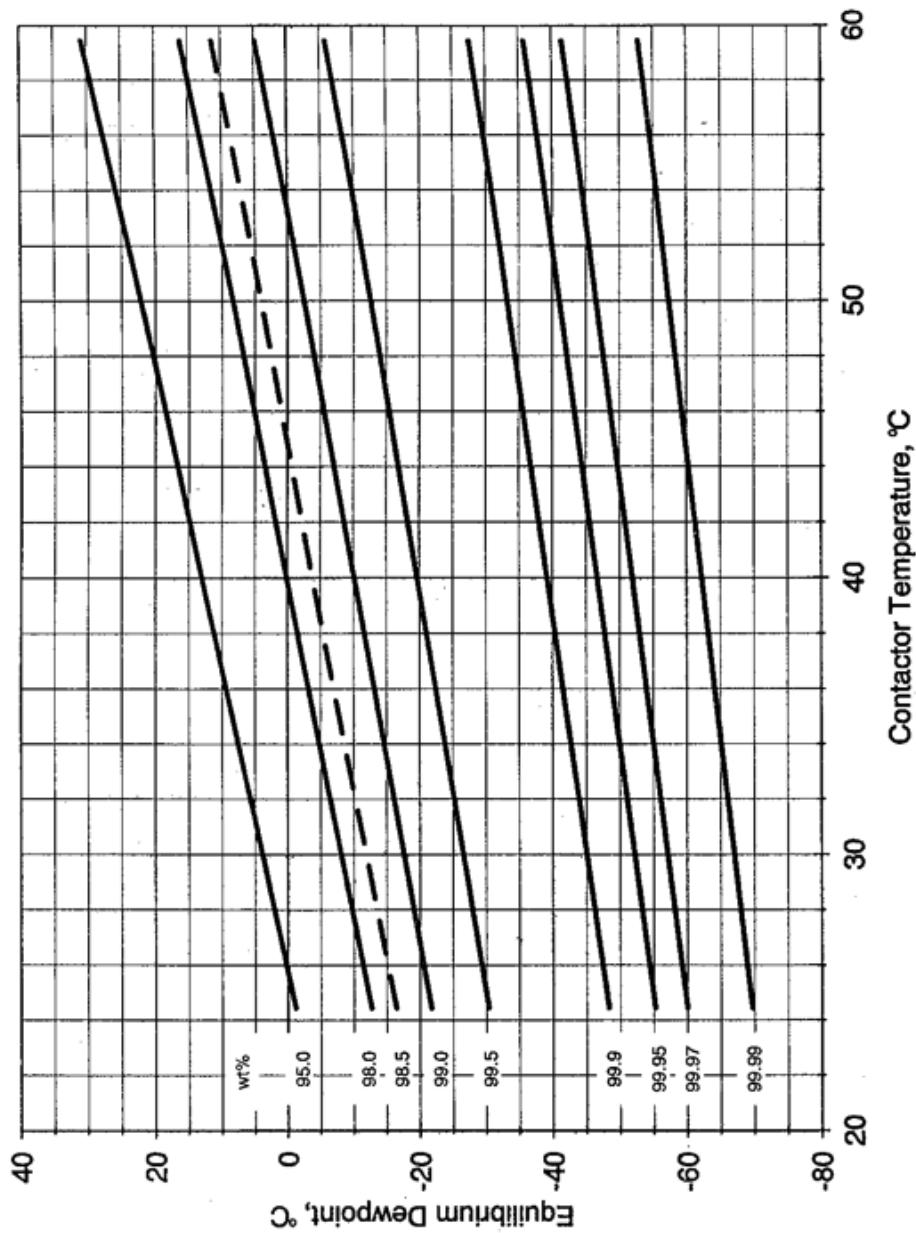
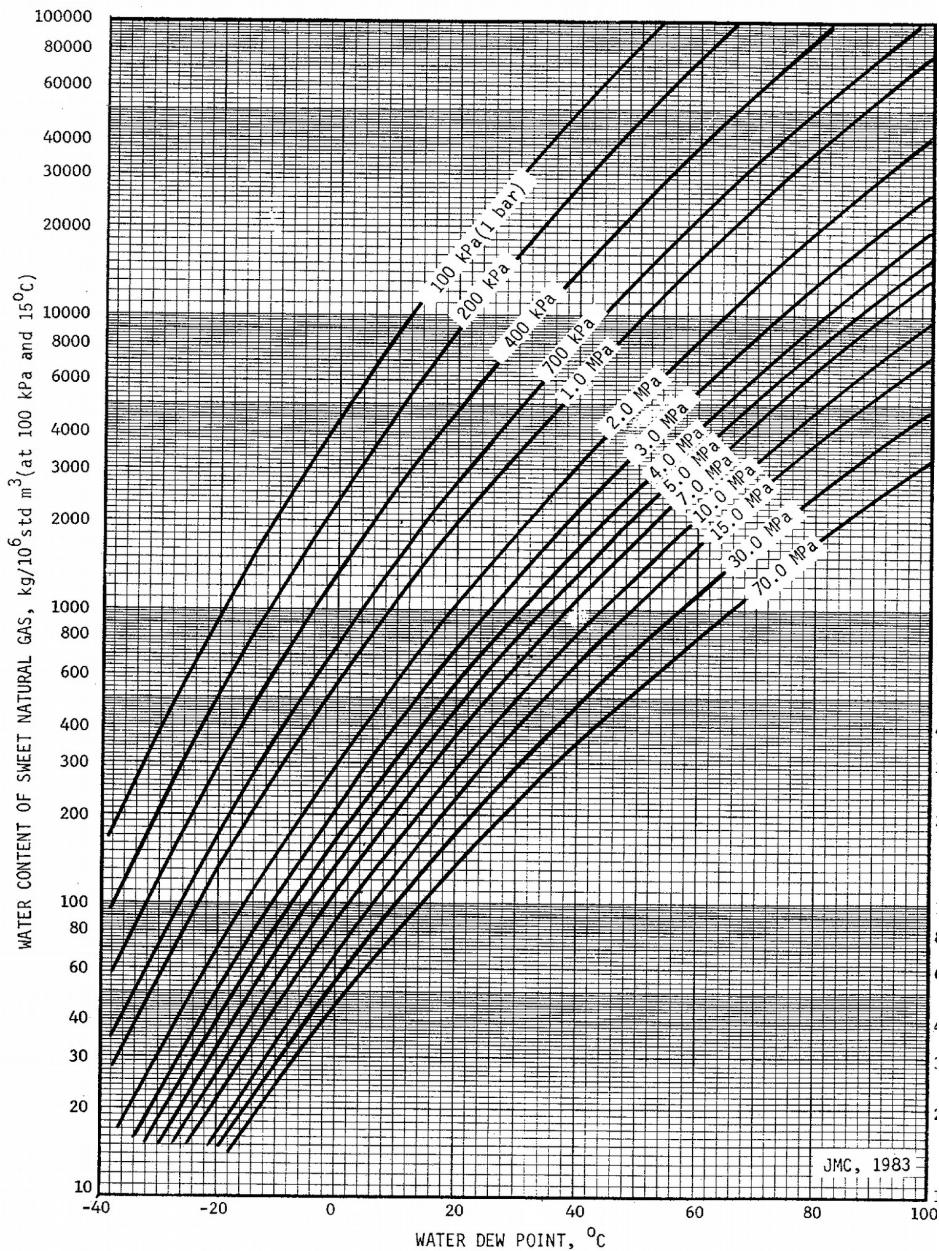

Figure 2: A TEG equilibrium chart.
Figure 3: Sweet-gas/water dew point graph.
- a) Water is to be removed from a process gas prior to pipeline entry. The pipeline entry specification is 20 mg water/ Sm^3 gas. A glycol absorption unit is available with a lean glycol content of 1.5 wt% water. The absorber pressure and temperature is 50 bara and 35°C, respectively. Will the glycol absorber be capable of achieving the pipeline entry specification? Use the enclosed glycol equilibrium (Fig. 2) and water saturation (Fig. 3) charts and explain your reasoning. **[8 marks]**
- c) A molecular sieve dehydration unit is operating at 40 bara and 30°C. The unit is required to produce a product natural gas with a water dewpoint of minus 20°C. The gas entering the unit is water saturated and the flowrate is $2 \times 10^6 \text{ sm}^3/\text{day}$. How much water is the unit required to remove? You will need the data in Fig. 3.